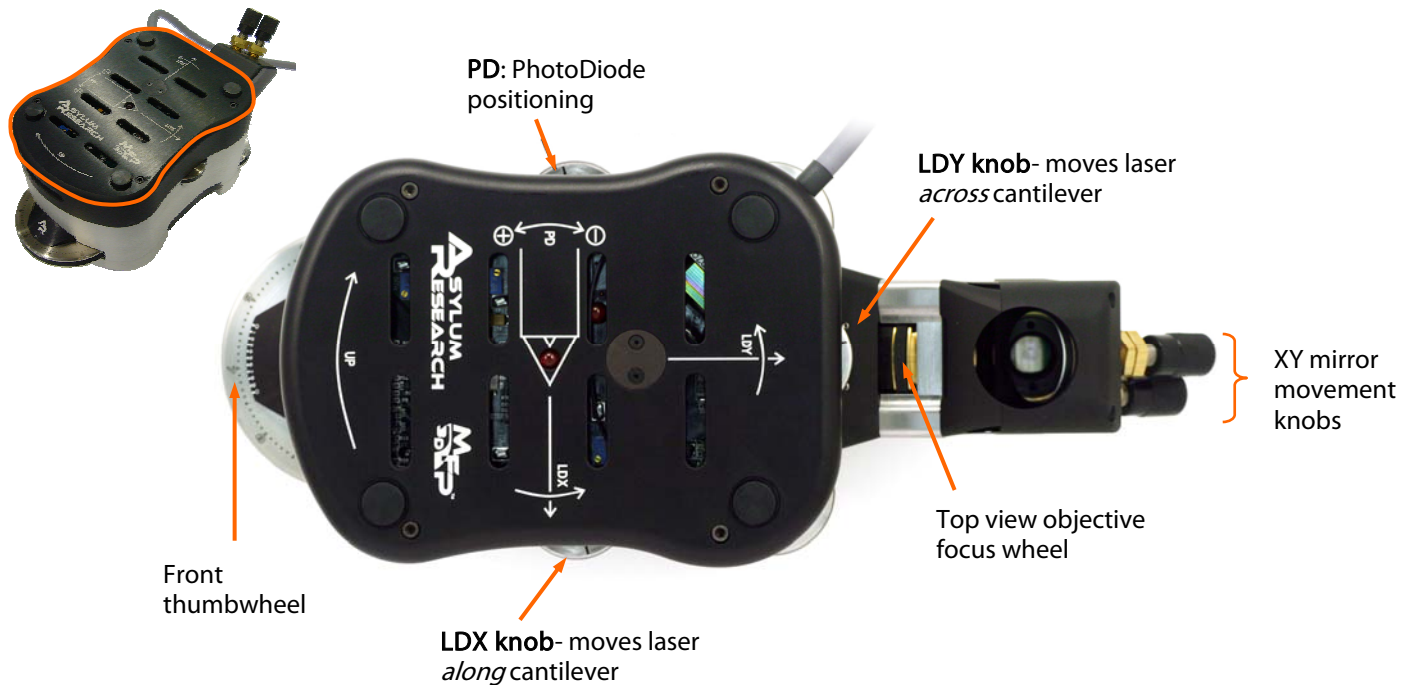
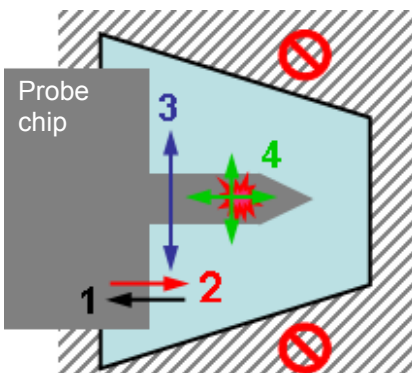

Figure 4.1: MFP-3D head with the various alignment thumbwheels labeled.
Figure 4.3: laser alignment pattern
- The top of the MFP-3D™ head is conveniently labeled (Figure 4.1), including the orientation of the probe (with an LED being in the center of the triangular cantilever). The thumbwheel on the right (of head) moves the SLD along the length of the cantilever (LDX), while the thumbwheel on the back (of head) moves it across the cantilever (LDY). The head has arrows indicating which way the SLD will go as they are moved CCW. The left side of the head has a thumbwheel that adjusts the vertical deflection on the position sensitive photodiode (PD).
✓ Place the IR card under the tip holder. Figure 4.3 (below) attempts to depict the procession needed to align the SLD. If the SLD spot isn't being blocked by anything, you can see it on the IR card. If you can't see it, move the SLD spot (using the LDX thumbwheel on the right side of the head, 'A' in Figure 4.1) along the length of the cantilever until you do- Figure 4.4A shows the visible SLD spot on the IR card. *If no spot is seen on the IR card, perhaps it may need charging for a few seconds under a fluorescent light.*
✓ Move the SLD spot back onto the support chip via LDX thumbwheel (no spot visible- depicted in Figure 4.4B; or Action 1-Figure 4.3).
✓ Move SLD spot until you see it on the card (spot visible- like Figure 4.4A; or Action 2-Figure 4.3);
▪ *If the SLD spot is outside the transparent quartz window, it won't be visible on the IR card. This is indicated by the hatched area in Figure 4.3.*
✓ Now use the LDY thumbwheel on the back side of the head ('B' in Figure 4.1) to adjust the beam perpendicular to the length of the cantilever (Sweep 3, Figure 4.3) WHILE MONITORING THE S&D METER.
➔ Maximize/ optimize the 'Sum' voltage signal using both LDX & LDY thumbwheels (Sweeps 4, Figure 4.3)
- To adjust the CCD image focus, use the thumbwheel in the optics housing on the back of the head ('D' in Figure 4.1): CCW move the focus towards the sample.
- To adjust the location of the viewing field of the CCD camera, use the X and Y translation knobs on the back of the optics housing ('E' in Figure 4.1).
This meter window is set up rather conveniently: If you have red in the deflection meter, you need to go negative to adjust to ~ 0 V (towards blue). The top of the head is labeled to tell you what way to go (positive or negative; see Figure 4.1; label 'C').
- ✓ Use the PD thumbwheel ('C' in Figure 4.1) to do this: if the deflection value in the S&D meter is negative (blue), move thumbwheel CCW to get to ~ 0 V; if the deflection signal is positive, move the PD thumbwheel CW to ~ 0 V.